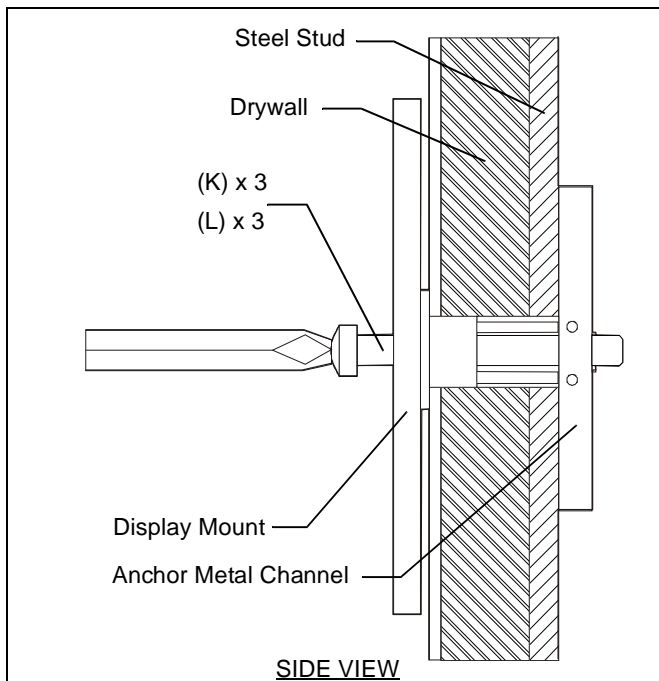

Figure 8
11. Place mount over anchors and align mounting holes in display mount with holes in anchors. (See Figure 8)
12. Place flat washer (K) onto button head capscrew (L).
13. Insert Phillips pan head capscrews (L) with flat washer (K) through mounting hole in display mount and into anchor (M) and tighten until flush against mount. DO NOT overtighten! (See Figure 8)